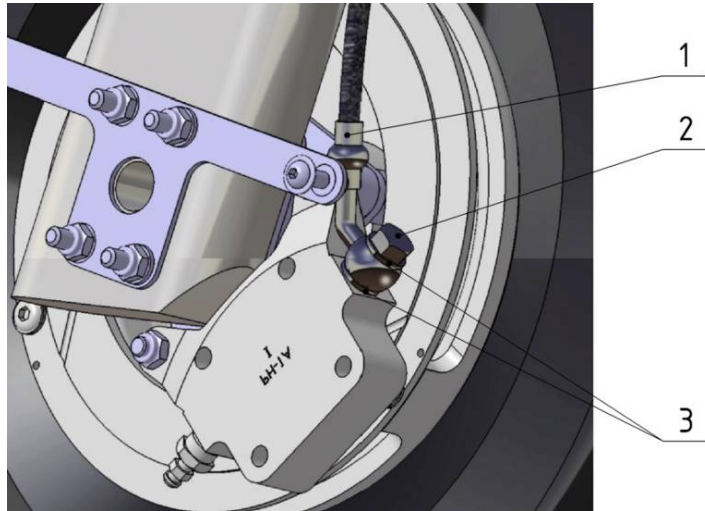

Fig. 32-10-10
2	Disconnect wheel brake line (Fig. 32-10-10). Unscrew the Fitting, 1/8", FT0107 (1) from Caliper and disconnect the Brake hose MATCO (2). Prevent draining of brake liquid out of the hose by plugging it up.